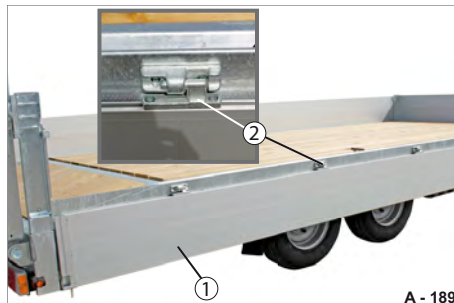

Fig. 121 Platform gate, one-piece, folded down
- Make sure that the platform gate (Fig. 121/1) does not slip out of the platform gate hinges (Fig. 121/2).